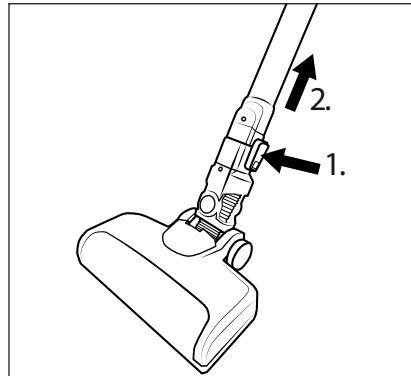

Fig. 12
- ◆ To remove the floor brush 21 from the suction pipe 23, hold down the floor brush release button 22 and pull the suction pipe 23 off the floor brush 21 (see Fig. 12).